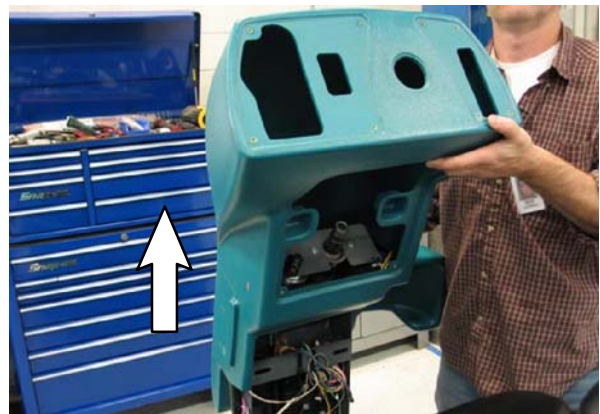

FIG. 11
10. Remove the shroud. (Fig. 11 / Fig. 7)